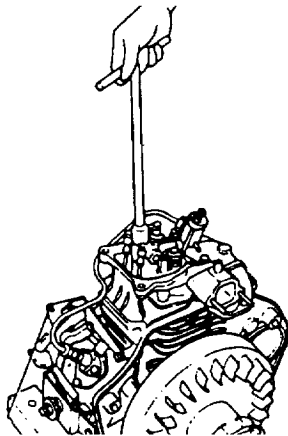

Figure 6-24 Tightening the valve rocker arm
- 2) Reinstall the valve rocker arm assembly. Install the intake and exhaust rocker arms on the rocker arm support making sure that the rocker arms line up with the valve stems when the assembly is installed on the head (see Figure 6-24).